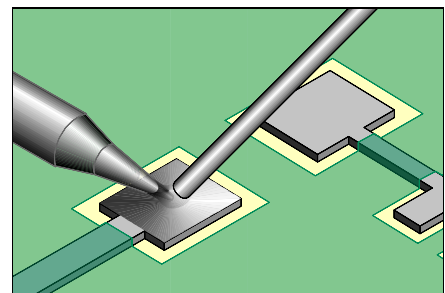

Figure 1: Prefill one pad with solder.
2. Prefill one pad with solder. (See Figure 1).